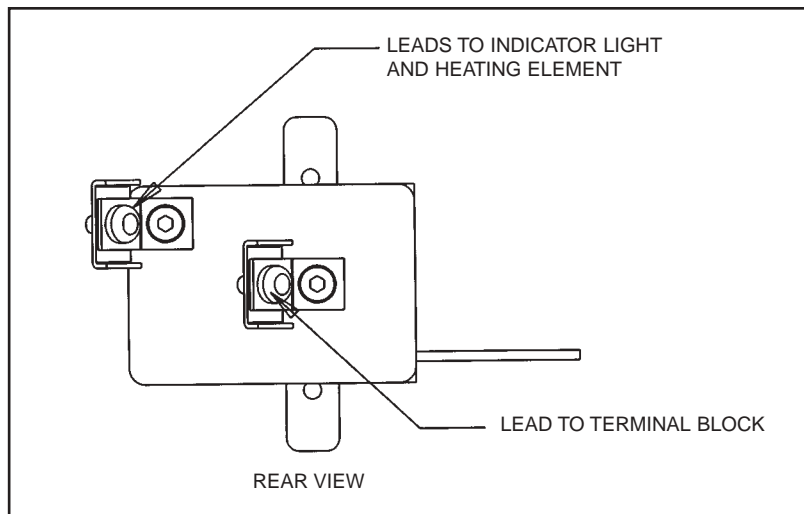

Figure 5. Thermostat Assembly
- 6) **REMOVE THERMOSTAT:** Use the medium screwdriver to extract the 2 screws anchoring the thermostat to the control panel. Once free, transfer the wires to the replacement thermostat. See Figure 5 for correct wiring.